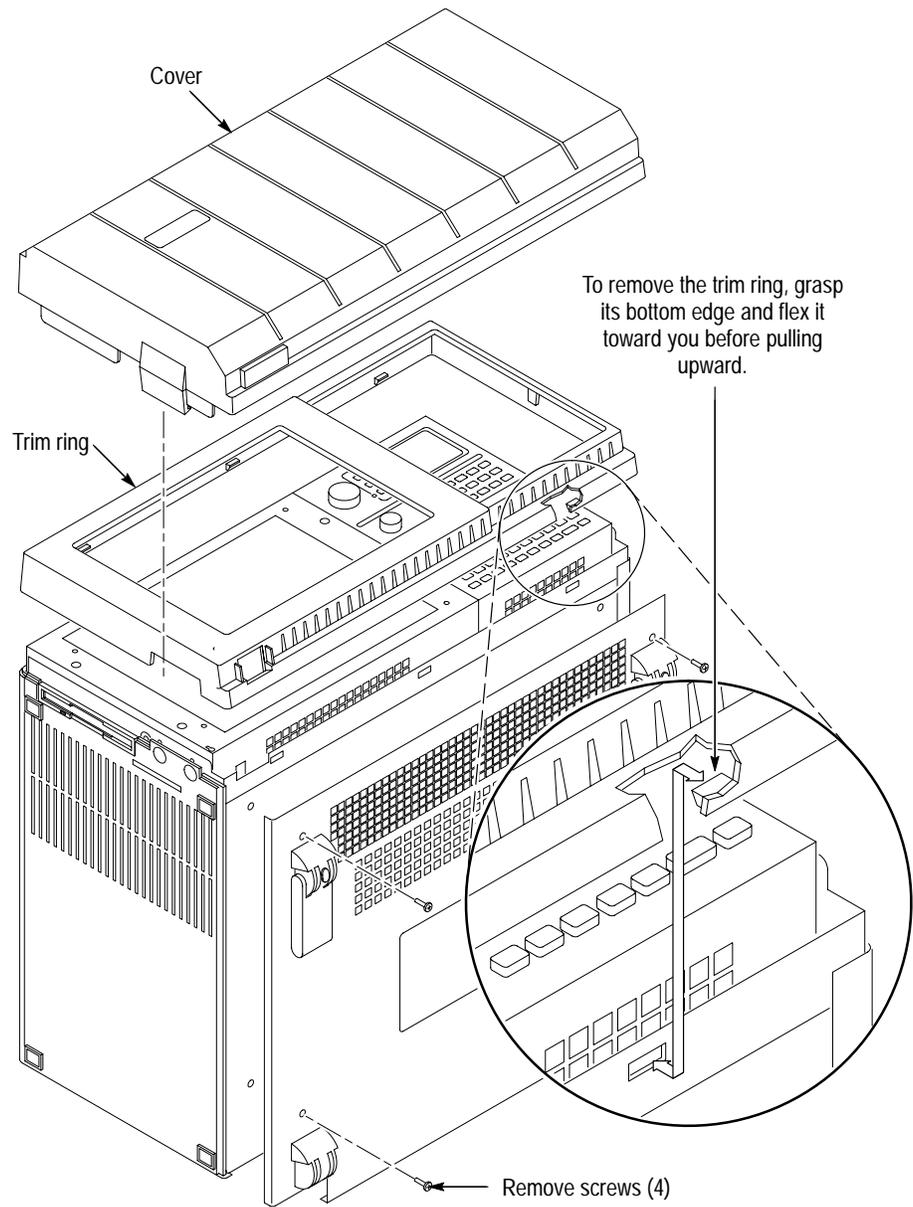

Figure 1: Front cover and trim ring removal
3. Set the mainframe on your work surface with the cord wrap feet facing down and with the bottom facing you. (See Figure 1 on page 7.)
6. Grasp the front cover by its left and right edges and snap it off the front panel. (See Figure 1 on page 7.)